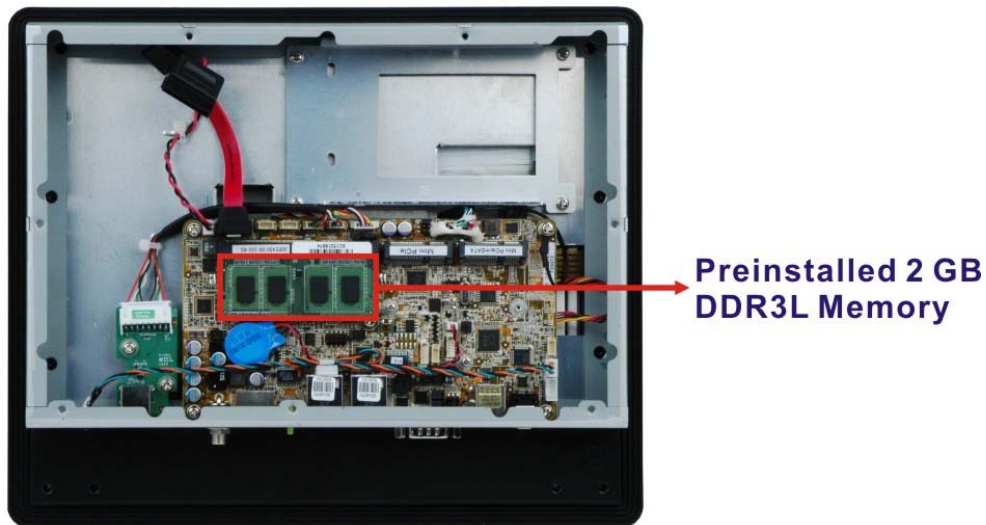

Figure 4-1: SO-DIMM Location
Step 2: Locate the SO-DIMM. (Figure 4-1).